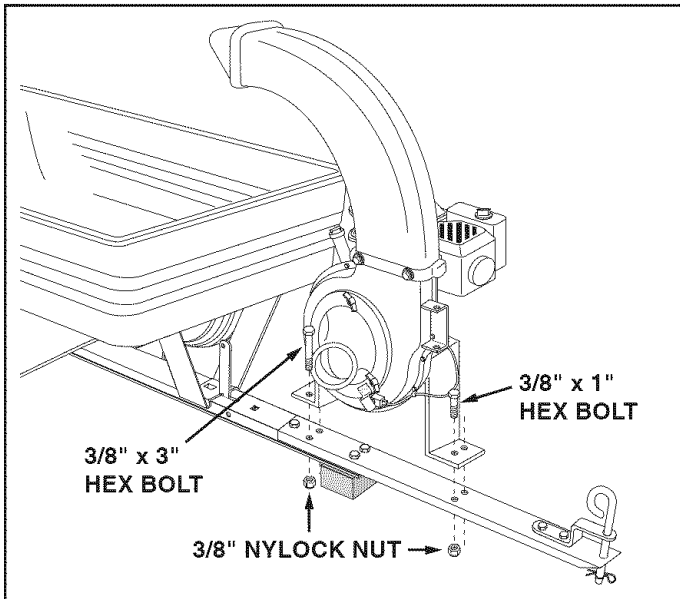

FIGURE 9
9. Attach the engine mounting plate to the tongues using two 3/8" x 3" hex bolts in the back holes, two 3/8" x 1" hex bolts in the front holes and four 3/8" nylock nuts. See figure 9.